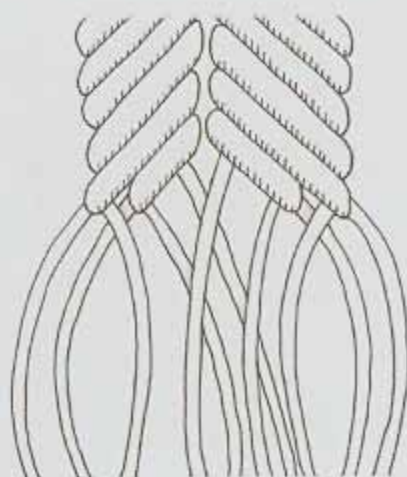

Fig. 9
2. When you've reached the desired length, make another row of just 2 **DHHs** on each side, omitting the **AC** and the last knotting cord from knotting (see Figure 9). This way, you won't add length but you will fill in most of the "V" space in the center of the rows.